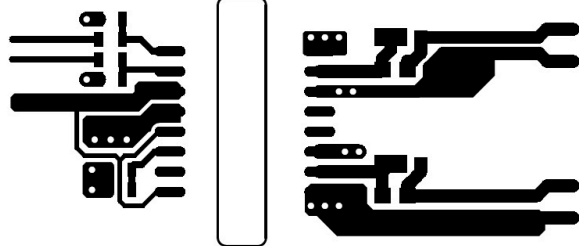
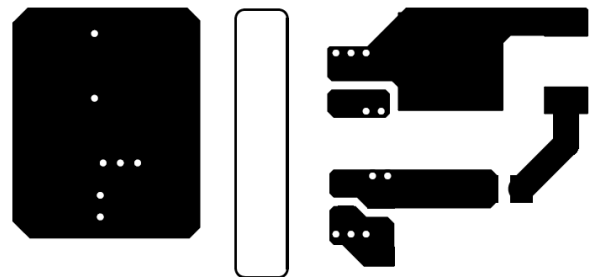

图 11-2. Top Layer Traces and Copper
图 11-3. Bottom Layer Traces and Copper
- Increasing the PCB copper connecting to VDDA, VDDDB, VSSA and VSSB pins is recommended (See Figure 11-2 and Figure 11-3). However, high voltage PCB considerations mentioned above must be maintained.
图 11-2 and 图 11-3 shows top and bottom layer traces and copper.